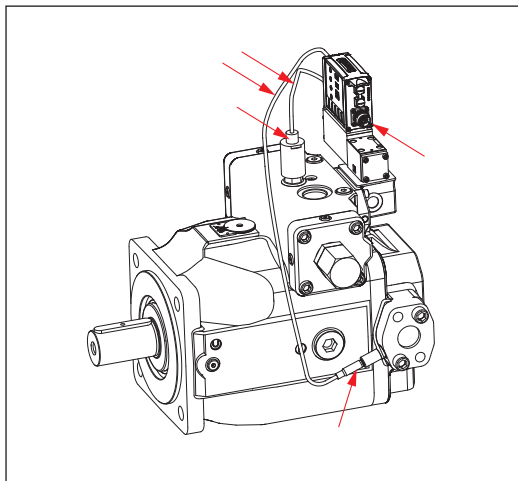

Fig. 10: Transporting the axial piston unit
- ▶ Place the lifting strap around the axial piston unit so that it does not pass over assembled parts (e.g. valves, electrical assembled parts, and sensors (red arrows see Fig. 10)) and that the axial piston unit is not suspended from assembled parts.